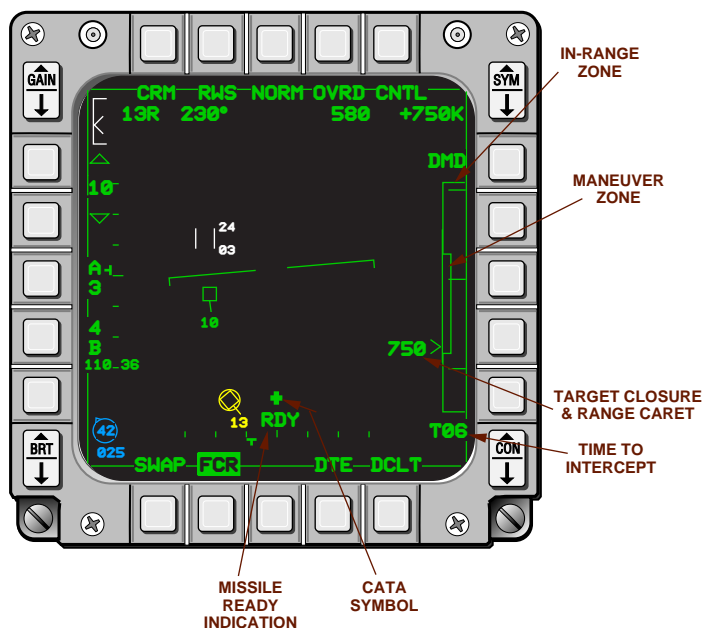

Figure 4-2 AIM-9 FCR Attack Display
**AIM-9 Attack Display.** Head-down targeting information similar to the HUD information is displayed on the FCR format on the MFD (Figure 4-2). The head-down FCR display shows identical AIM-9 targeting information without the visual cues, i.e., missile reticle, TD box, and missile diamond. A Collision Antenna Train Angle (CATA) symbol provides a collision course indication to bugged target when the aircraft is maneuvered to position the CATA symbol on the vertical centerline of the MFD.